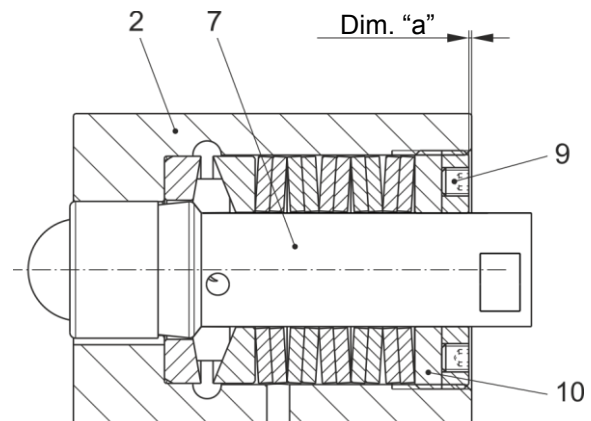

Fig. 9
3. If necessary, unscrew the switching disk (23) and remove the cap screws (24).
4. Loosen the locking set screws (10) on the adjusting nuts (9).
5. Set all overload elements (2) by turning the adjusting nut (9) to the dimension "a" (Fig. 9) found in the Adjustment Diagram.
6. Tighten the locking set screws (10) again in the adjusting nuts (9).
7. If necessary, screw the cap screws (24) via the switching disk (23) in the bolts (7); then tighten them with a tightening torque acc. Table 3.